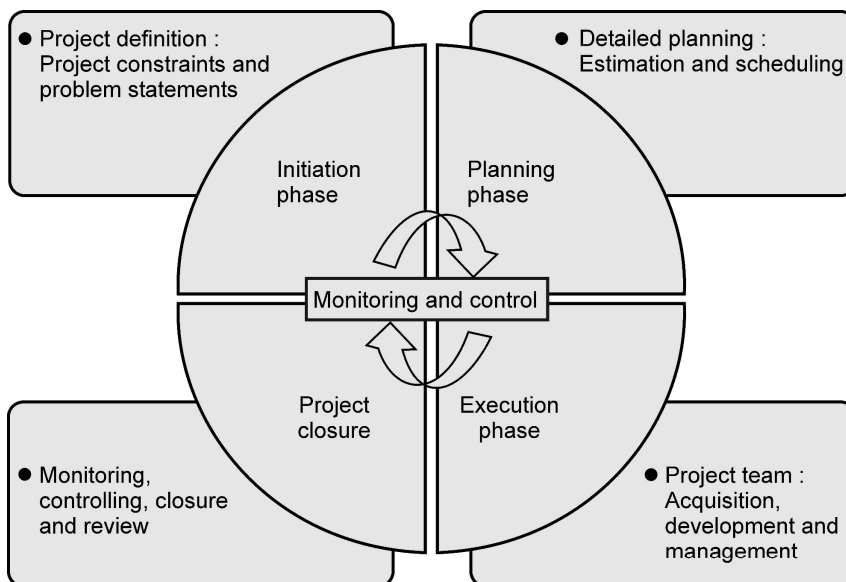

Fig 1.2.1 The project life cycle
- The Fig 1.2.1 shows the project life cycle in which the following phases are involved